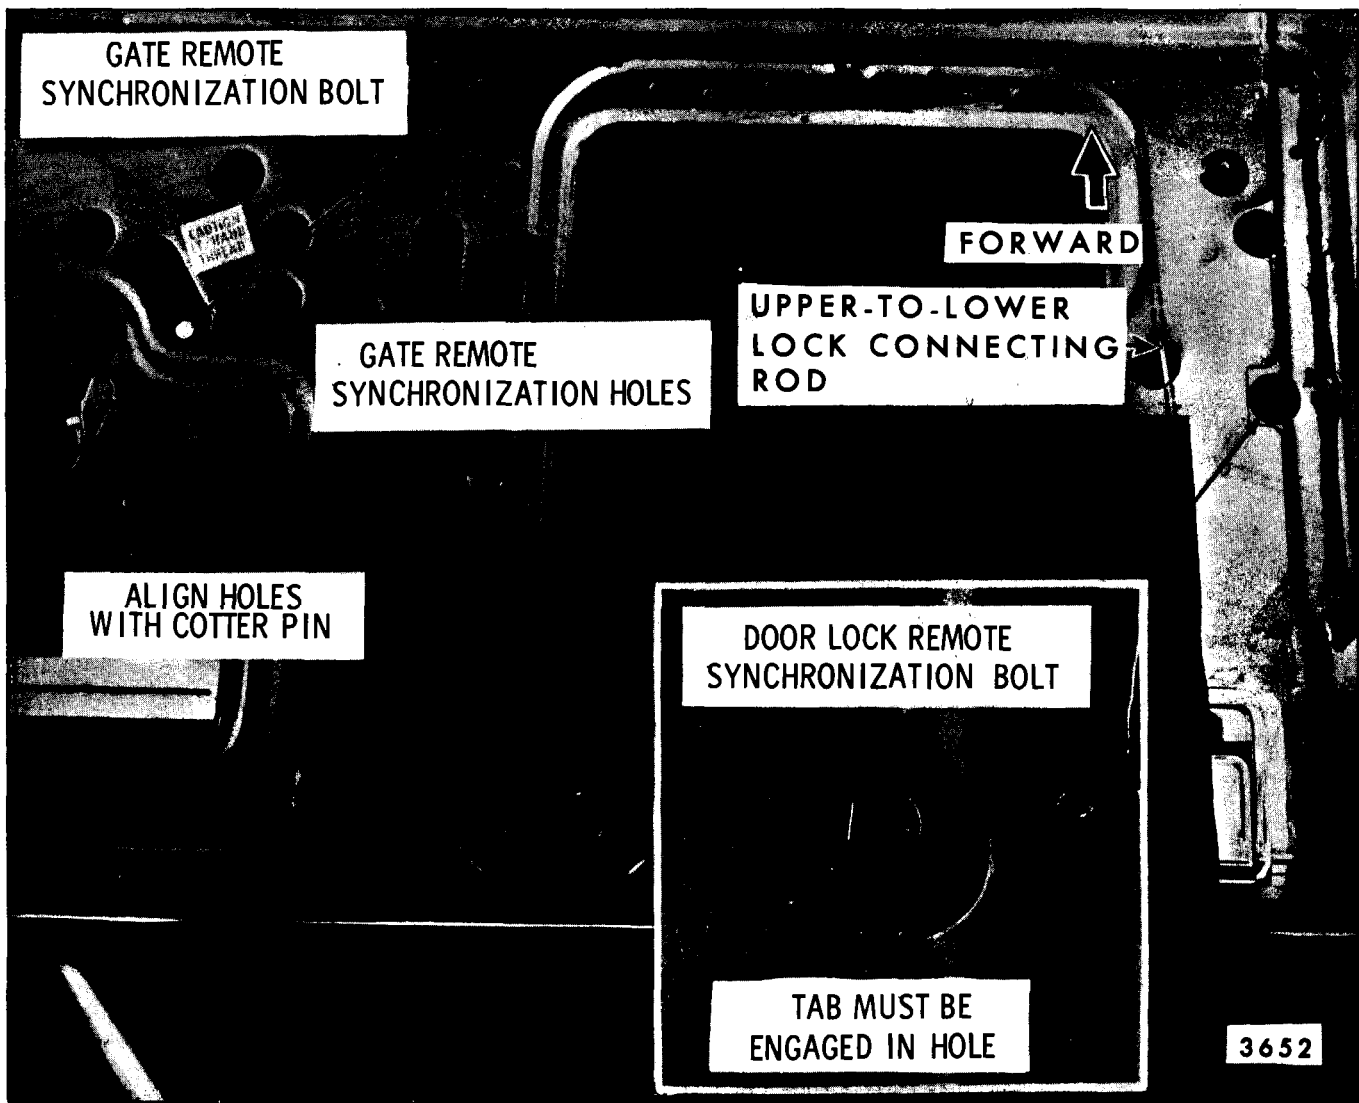

Fig. 9-49-Dual Acting Tail Gate Lock Synchronization Check
5. Connect all remote rods and tighten remote synchronization (adjusting) bolt (See Figure 9-49).
6. Remove pin from remote control synchronization (alignment) hole (See Figure 9-49) and actuate tail gate inside remote control handle (gate operation) to unlock upper right and left locks that were manually locked.
2. Loosen lower lock to upper lock connecting rod synchronization (adjusting) bolt located on upper lock (Figure 9-49).
5. With the right lower lock fully engaged with the striker, reach through the access hole and hold the lower to upper lock connecting rod forward (Figure 9-49), then tighten door lock, synchronization bolt (Figure 9-49).
6. With right and left upper locks in a locked position, visually check gate remote synchronization holes in gate remote control levers (center of gate as shown in Figure 9-49). IF THE HOLES DO NOT LINE UP, loosen gate remote synchronization bolt (Figure 9-49) by turning to the right (left hand thread), approximately three turns.
7. With gate synchronization bolt loose, check to make certain there is no bind in remote levers. Align gate remote synchronization holes in remote assembly by inserting a cotter pin through alignment hole in both levers (Figure 9-49). Then, tighten synchronization bolt to 57-87 inch pounds and REMOVE COTTER PIN.
3. Loosen door lock synchronization (adjusting) bolt (Figure 9-49).
9. With the right lower lock fully engaged with the striker, reach through the access hole and hold the lower to upper lock connecting rod forward (Figure 9-49), then tighten door lock synchronization (adjusting) bolt (Figure 9-49).
6. With right and left upper locks in a locked position, visually check gate remote synchronization holes in gate remote control levers (center of gate as shown in Figure 9-49). If the holes do not line up, loosen gate remote synchronization bolt (Figure 9-49) by turning to the right (left hand thread) approximately three turns.